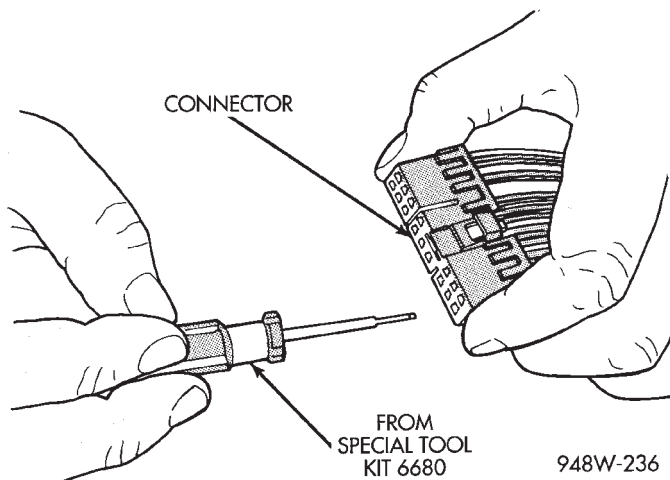
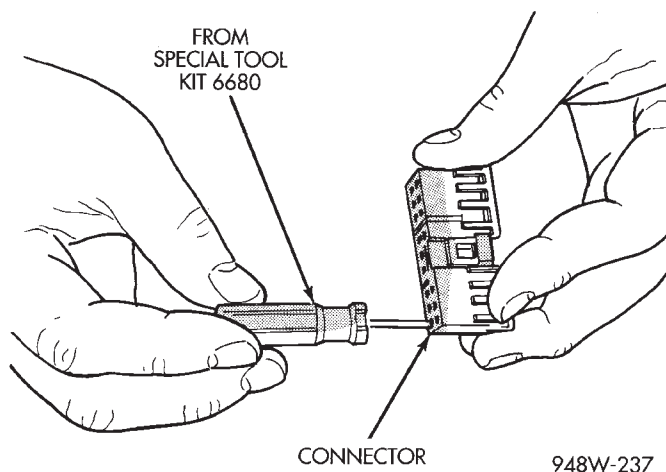

Fig. 17 Terminal Removal
Fig. 18 Terminal Removal Using Special Tool
- (4) Position the connector locking finger away from the terminal using the proper pick from special tool kit 6680. Pull on the wire to remove the terminal from the connector (Fig. 17) (Fig. 18).